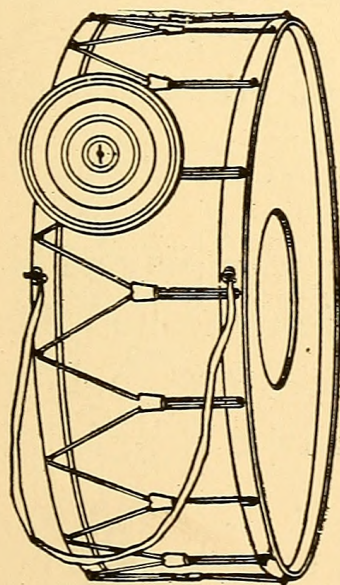

FIG. 542. — The Bass Drum.
Figure 542 shows
**The Bass Drum**, and Fig. 544 the detail of its framework. Procure eight barrel hoops for the framework; also a small drum. Soak four of the hoops in water, then bend them out and fasten them together so as to make two hoops 30 or 34 inches in diameter. Place the drum in the exact center of one hoop, and fasten strips *A*, *B*, *C*, and *D* around it (Fig. 544). Brace the other hoop with strip *E*, then connect the two hoops with 12-inch strips placed horizontally as shown. Fasten the small drum in place with cords (Fig. 544). Cover the entire framework with wrapping-paper, then cut away the portion covering the head of the small drum (Fig. 542). Nail
and sew edge *A* to edge *B*. Get heavy wrapping cord for the brace cord, and lace it back and forth around the drum, as shown in Fig. 542. Screw a screw-eye into each rim from which to attach a rope or tape *sling* (Fig. 542).